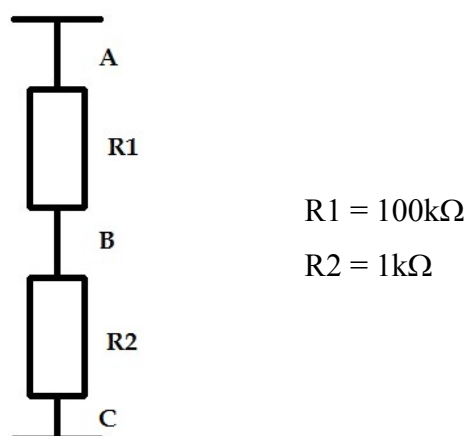

FIGURE 4:Voltage divider circuit
-  *Sketch part of the boards illustration into your logbook and decide how to arrange the components and connections needed for this lab in section FIGURE 4.*
Fit the components to your protoboard to achieve the circuit shown in FIGURE 4 below, connecting 9V to point A and 0V to point C.